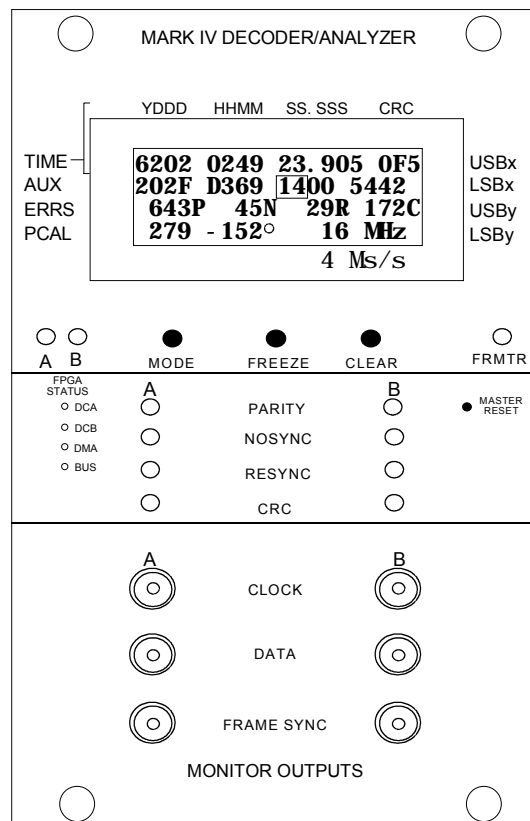

Figure 2: Mark 4 decoder front panel
Setup: Connect as shown in Figure 2 but without a decoder. On the KWU, mount a disk module with a known good recording made in 'mark4:64' mode. On UUT, mount a scratch disk module.
The function of the Mark IV decoder is perhaps most easily understood by reference to the front-panel display in shown in Figure 2.
In the 'A' and 'B' modes, the following information is continuously displayed for the selected channel (see Figure 2):
- 'Aux Data' - displays the current decoded auxiliary-data field. The display is frozen whenever the 'Freeze' button is depressed and held; normal display resumes upon its release. When the 'Freeze' button is depressed, the 'Time' and 'Aux' data displayed are from the same tape frame header. For Mark 5A testing, the most important part of this data is the track number embedded in the auxiliary data, which in Figure 2 are the two digits enclosed by a small rectangle. Set 1 (Headstack1) tracks 2-33 display as '2-33', respectively; Set 2 (Headstack2) tracks 2-33 display as '42-73', respectively.